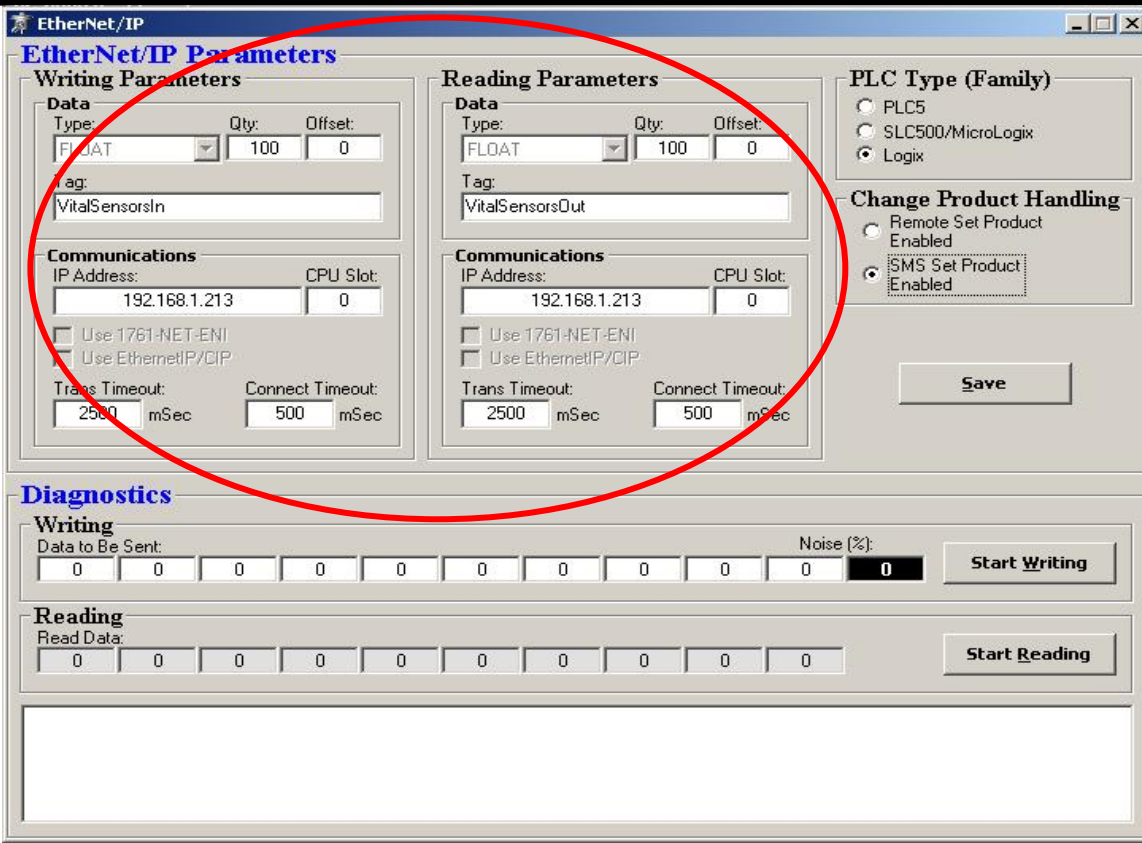

Figure: 2
5. After the VS-3000 Dashboard re-starts. Click on **Edit**>>EtherNetIP. The *EtherNet/IP* setup box will appear. See *Fig. 2* below.
7. If you plan to enter product / brand ID's into the VS-300 / VS-200 SMS, you will need to specify if product changes are handled by the PLC or VS-300 / VS-200 SMS (to avoid conflicting signals). See *Change Product Handling* in *Fig. 2* below. If you plan to enter brands/products in the PLC and only use raw sensor outputs, then ignore this function.